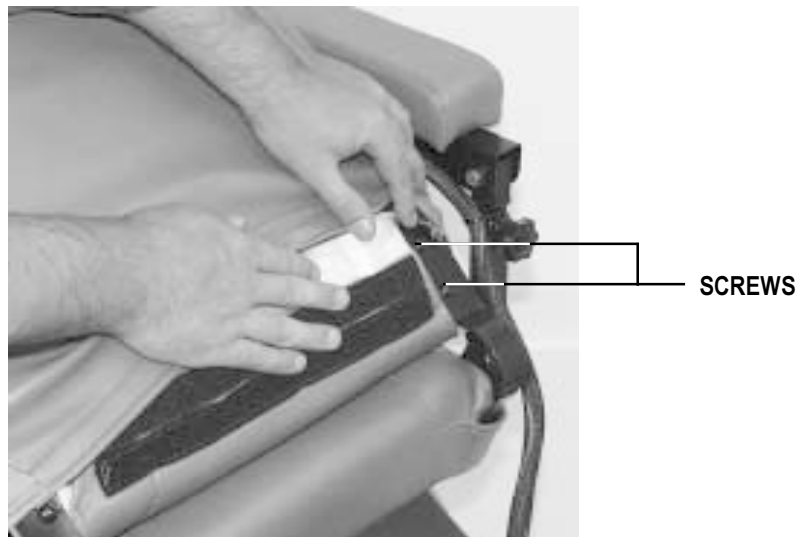

Figure 7. Seat-back Assembly
1. Line up the hinges with the holes in the seat-back. See figure 7.